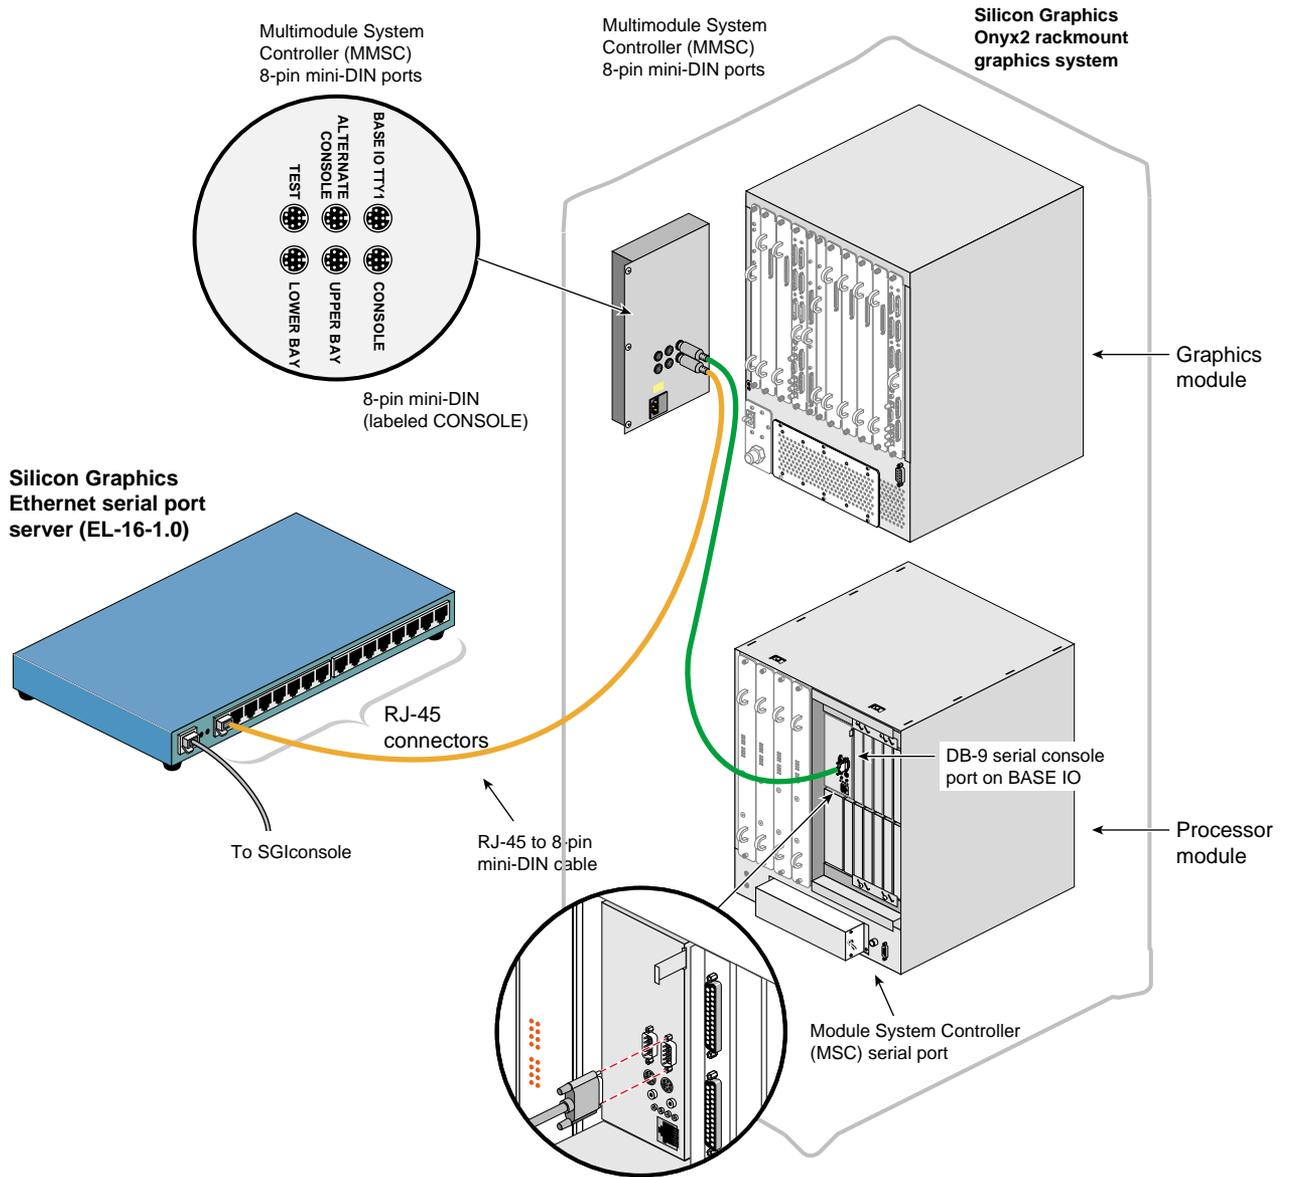

Figure 2-45 Connecting the MMSC Base I/O TTY1 to the Processor Module tty_1, Console Connector
6. Connect the 8-pin mini-DIN connector end of one of the 8-pin mini-DIN to DB-9 cables to the 8-pin connector on the MMSC labeled "BASE IO TTY1." Connect the DB-9 connector end of this same cable to the serial port connector labeled "tty_1, Console" of the Silicon Graphics Onyx2 rackmount graphics system processor module located in the lower bay of the rack. See Figure 2-45.